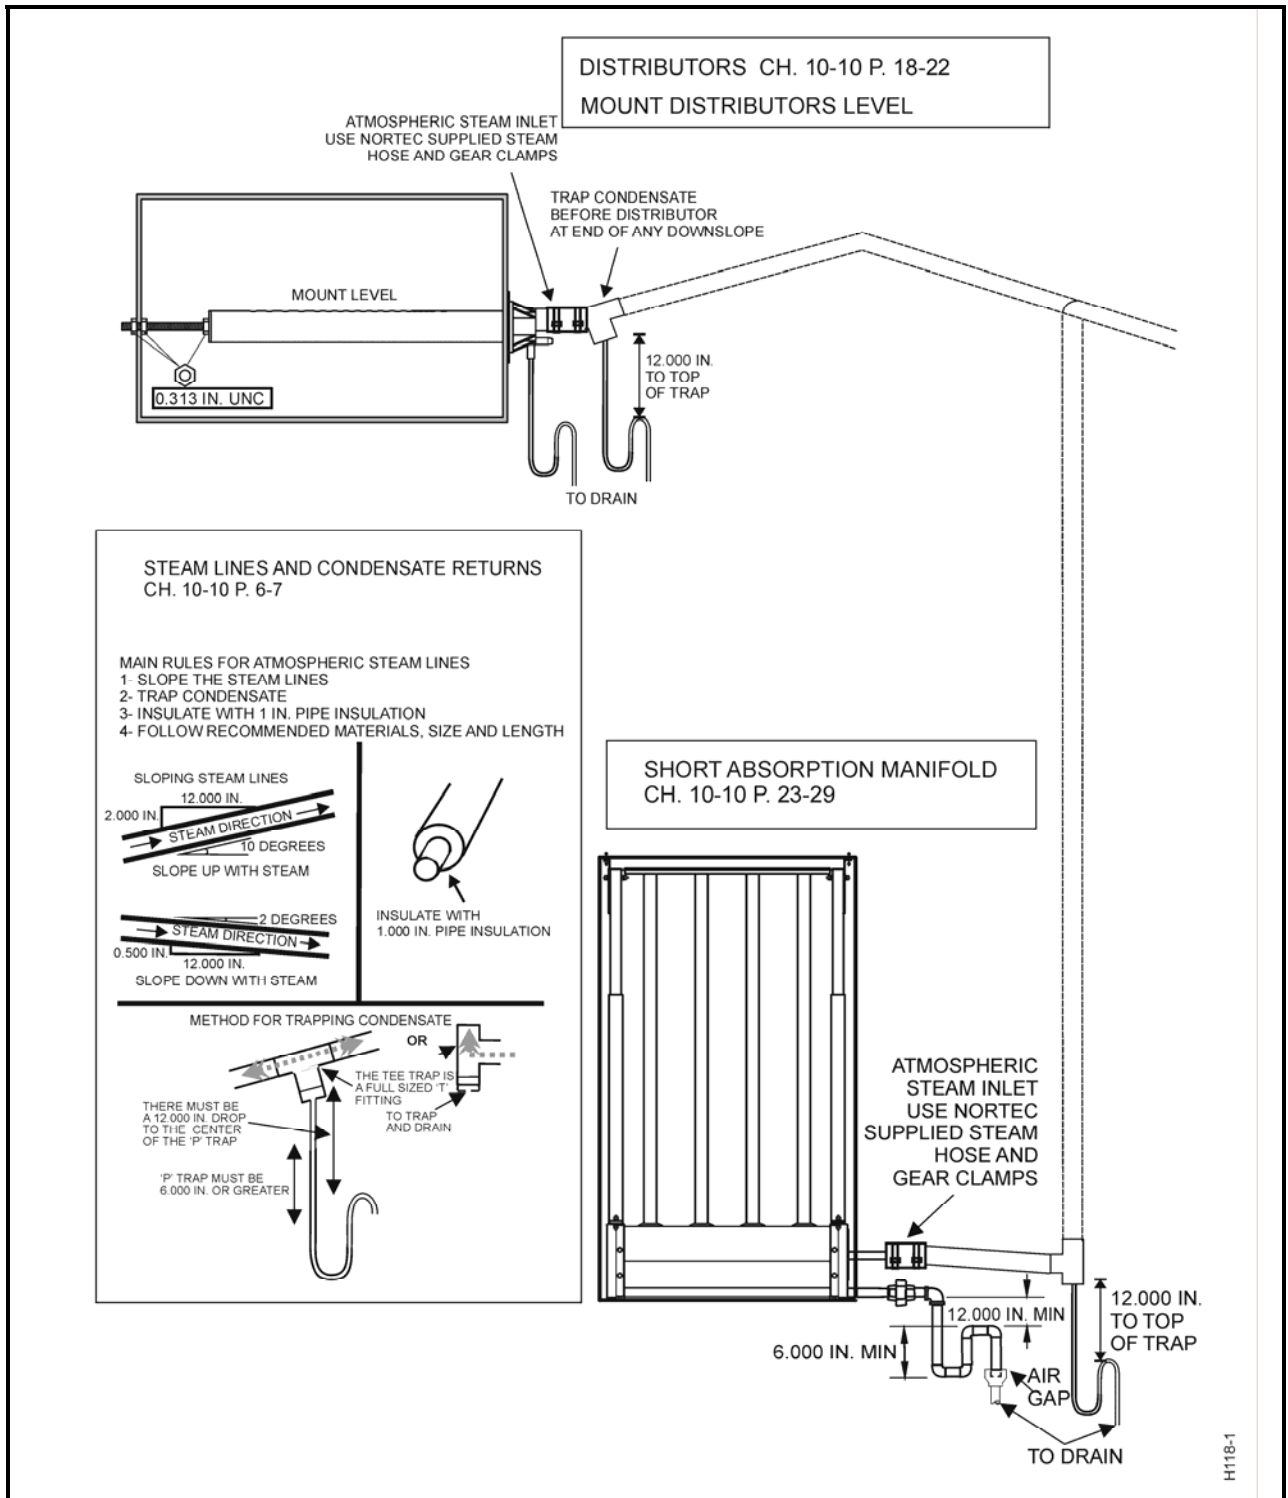

Figure 6. Typical NHTC Installation (Sheet 1 of 2)
- (1) Ensure that available voltage and phase corresponds with humidifier voltage and phase as indicated on humidifier's specification label.
- (2) Ensure that the dedicated external fuse disconnect is of sufficient size to handle the rated amps as indicated on the specification label. Refer to local codes.
- (3) Report any discrepancy immediately to the site engineer.
- (4) Location and mounting is described in Chapter 10-10.
- (5) Typical installation (See Figure 6.) shows the references to the appropriate chapter of the manual.